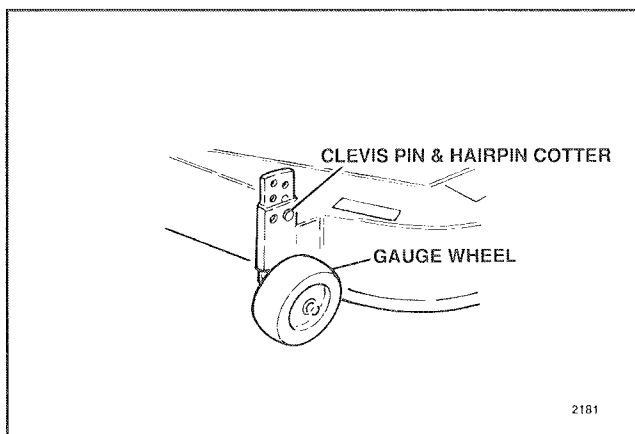

FIG. 14 Anti-Scalp Roller Adjustment
1. Remove hairpin cotter and clevis pin securing gauge wheel to cutting deck (Fig. 14).